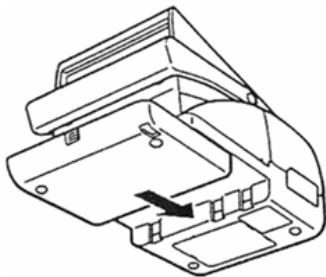

Figure 3-4a
- 1 Remove AC Power Module (Figure 3-4a).